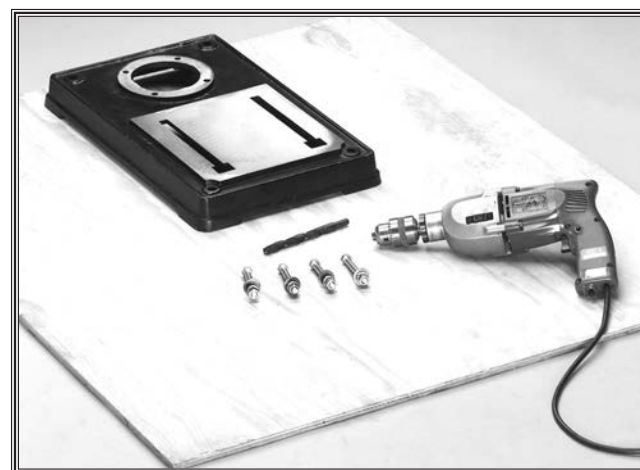

Figure 7. Secure base to 4' x 4' x $\frac{3}{4}$ " plywood.
- a. Center the drill press base along the back edge of the 4' x 4' x $\frac{3}{4}$ " sheet of plywood (see Figure 7).